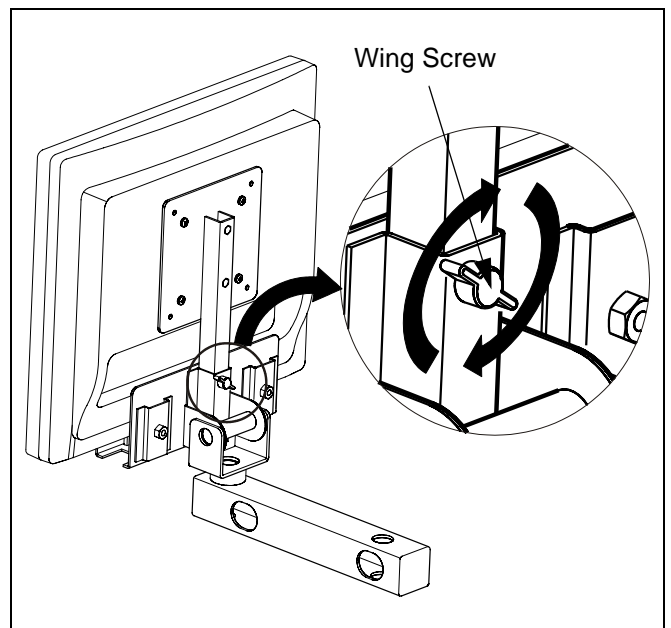

Figure 5: Tighten Locking Screw
5. Secure slide bracket assembly to mount by turning wing screw clockwise to tighten. (see Figure 5)